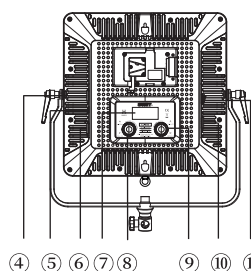

Fig.6 CL-60D
This product support battery and adaptor power supply, switch on the light (Fig.6 ⑩), set the require light parameter by brightness adjusting knob (Fig.6 ⑧), color temperature adjusting knob (Fig.6 ⑨), then use normally.
This product support two color temperature and brightness adjusting mode: General adjusting mode. Fast adjusting mode. Press brightness/color temperature adjusting knob (Fig.6 ⑧/⑨) to change the adjusting mode the user can set the brightness/color temperature quickly by combining the two adjustment modes according to the usage demand.
Long pressing the brightness adjusting button (Fig.6 ⑧) about 2s to enter in communication address setting interface, communication address range: 001-512.
LCD digital tube field (Fig.8 ④) flashing indicates that the current bit is selected, rotate the brightness adjustment knob (Fig.6 ⑧) to set the current bit, press the brightness adjustment knob (Fig.6 ⑧)
to determine the setting of the current bit and go to the next bit, when the setting of the last bit is completed, press the brightness adjustment knob (Fig.6 ⑧) or wait for about 5 s, to exit the setting of the communication address.
Through the DMX line of the lamp network, long press color temperature adjustment knob (Fig.6 ⑨) about 2 s, to complete the lamp communication control mode setting.